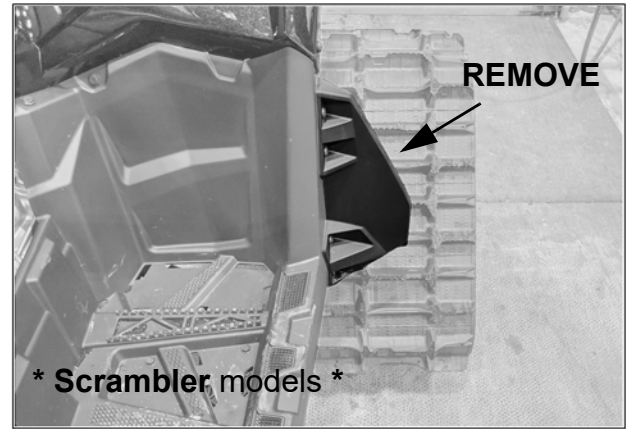

Fig. 23
1. POLARIS SCRAMBLER models: Remove rear fender extensions to prevent any possible contact between track systems and footguards. This modification will help avoid damages to the vehicle and track systems. See Fig. 23